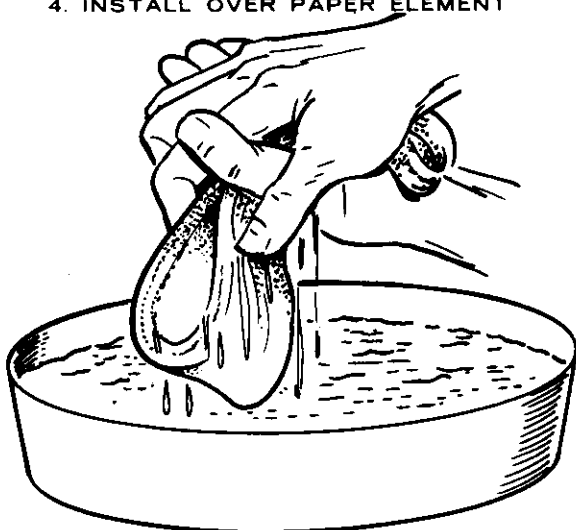

FIG. 14
1. To clean pre-cleaner wash in water and detergent referring to Figure 14. Remove excess water by squeezing like a sponge and allow to dry thoroughly. Distribute three tablespoons of SAE 30 engine oil evenly around the pre-cleaner. Knead into and wring excess oil from pre-cleaner.